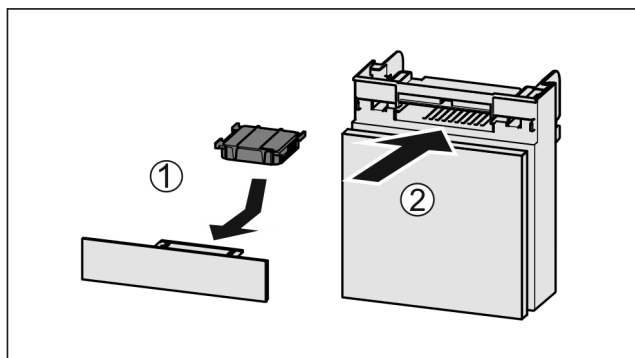

Fig. 81
- ▶ Insert the carbon filter as shown in the diagram Fig. 81 (1).
- ▶ Push the compartment in Fig. 81 (2).